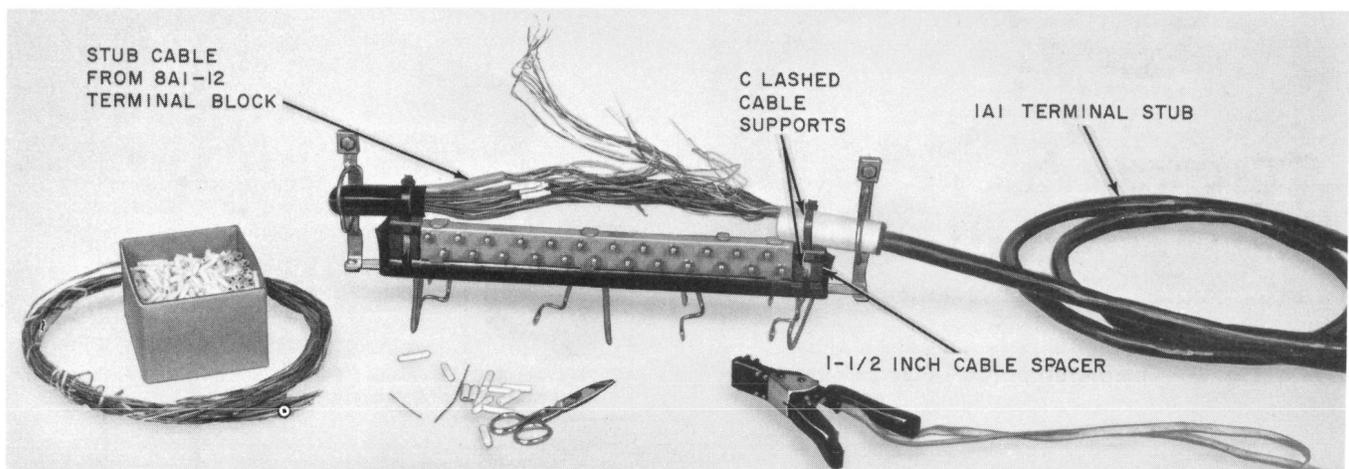

Fig. 4—Splicing Assigned Pairs
- (4) Place 1A1 or 1B1 terminal stub in cable terminal and secure with C lashed cable supports (Fig. 4).
- (5) Splice assigned pairs (Fig. 4) (See 631-240-100).